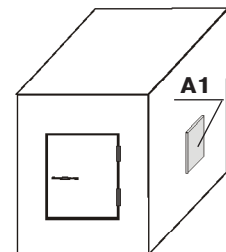

Figure 8 - Monitoring a safe
- for armored safe (Figure 8) – by means of any type of superglue.